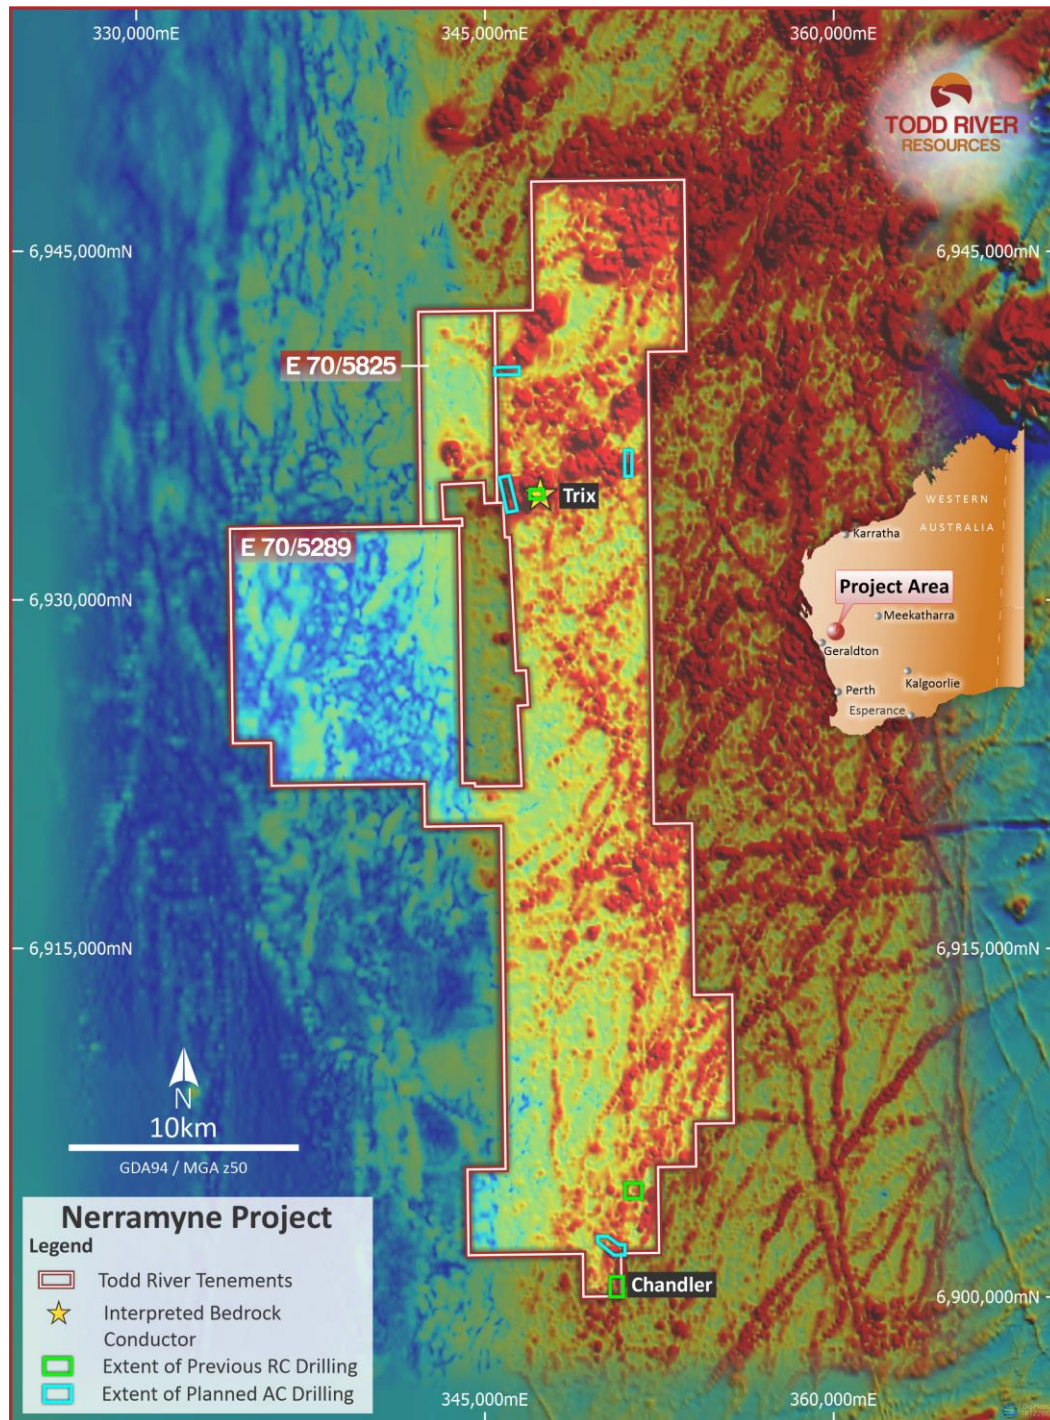

Figure 2 – Nerramyne Project Showing the Location of the Trix conductor and drill areas over Regional Magnetics
In addition, results from an initial Reverse Circulation (RC) drilling program have returned encouraging Platinum and Palladium anomalism over a broad intersection at the Chandler Prospect in the south of the Nerramyne Project (Figure 2).